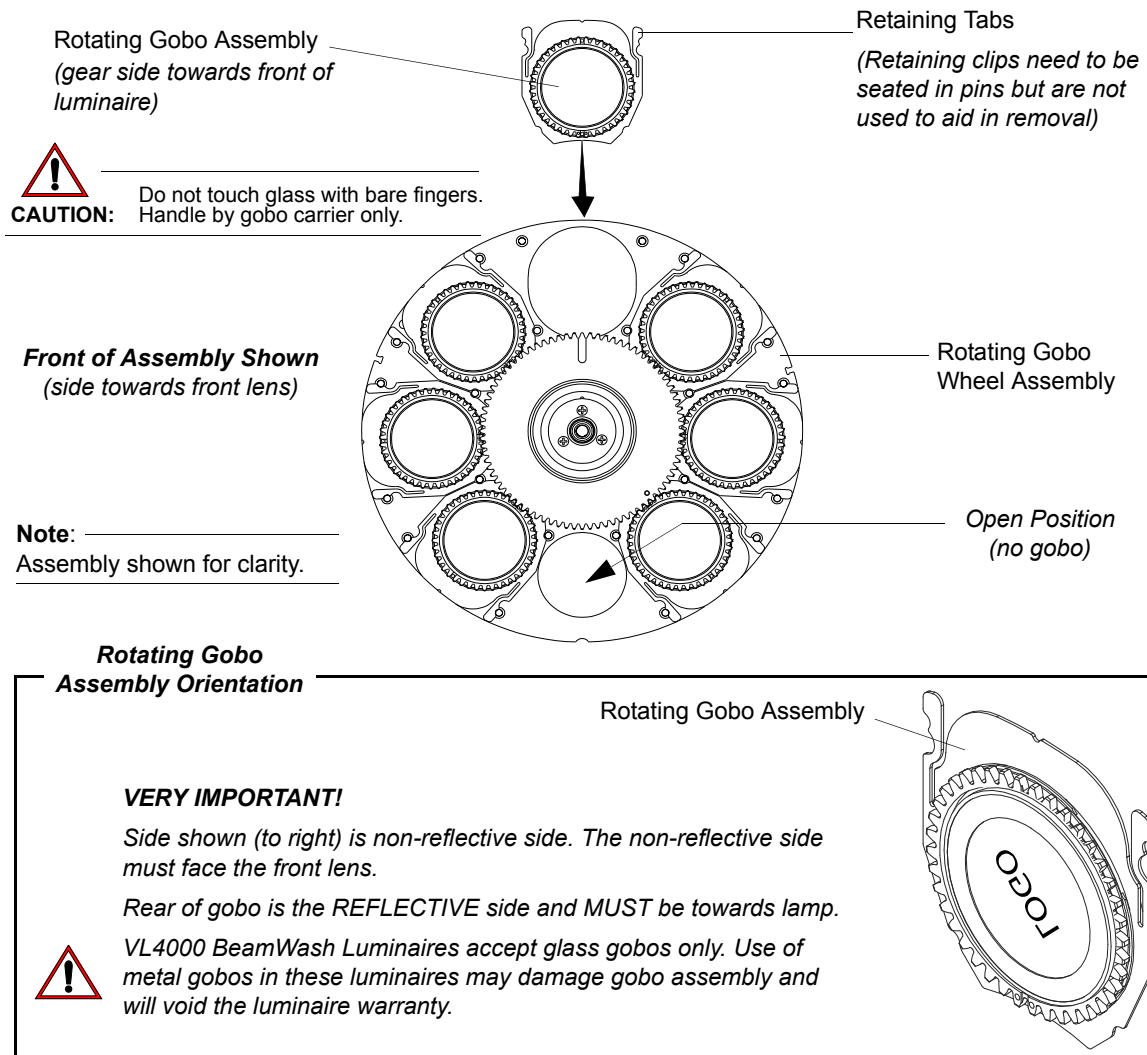

Figure 2-9: Rotating Gobo Wheel - Gobo Installation
- Step 7. After ensuring main gear slot and gobo assembly timing marks are properly aligned (as described in Step 7, install replacement rotating gobo assembly into gobo position. Note orientation of rotating gobo assembly as indicated in Figure 2-9.